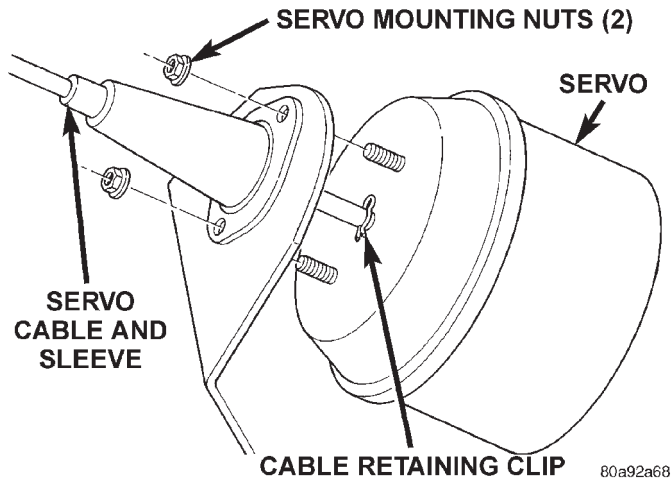

Fig. 4 Servo Cable Clip Remove/Install—Typical
- (3) Disconnect electrical connector at servo.
- (4) Disconnect servo cable at throttle body. Refer to Servo Cable Removal/Installation in this group.
- (5) Remove 2 mounting nuts holding servo cable sleeve to bracket (Fig. 3) or (Fig. 4).
- (6) Pull speed control cable sleeve and servo away from servo mounting bracket to expose cable retaining clip (Fig. 4) and remove clip. Note: The servo mounting bracket displayed in (Fig. 4) is a typical bracket and may/may not be applicable to this model vehicle.